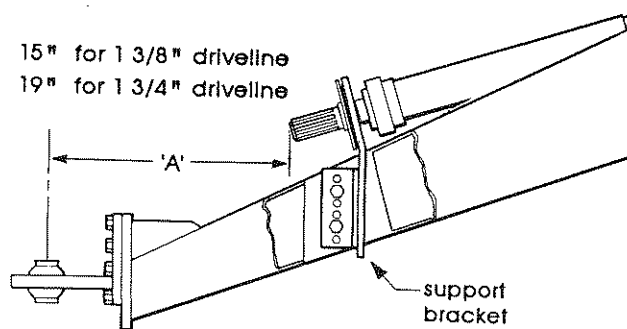

Fig. 3
4. When the baler is connected to the tractor, the PTO drivelines can now be installed and properly adjusted. The correct driveline adjustment is achieved by positioning the carrier bearing support bracket either forward, back, up or down. (See **Fig. 3**). The rear (baler) driveline fits either size front driveline.
5. The PTO shaft bearing mount angles, ANG0027391, are designed to be used with either size (1 3/8" or 1 3/4") drivelines. The 3" flange angle bolts to the baler tongue side plates while the 2 1/2" leg mounts the carrier bearing support bracket, MNT0028883. With the 3" flange towards the front of the baler, dimension 'A' is 19", with angle flanges towards rear of baler, dimension 'A' is 15". (See **Fig. 3**). (See parts manual page 27 for parts description).